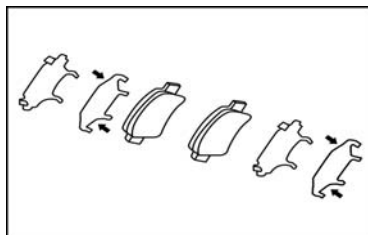

Fig. 2-69
② Install the retaining ring by a screwdriver. **Note:** Do not damage the dustproof cover of the slave cylinder.
① Smear the lithium base glycol grease on the surface of 2 new dustproof covers.
② Install the 2 dustproof covers into the support of front disc brake slave cylinder.
① Smear the lithium base glycol grease on the sliding part of the 2 sliding pins and the surface of oil seal.
② Install the 2 sliding pins into the support of the front disc brake slave cylinder.
① Smear grease for disc brake on the two sides of each silencer pad. See Fig. 2-69.